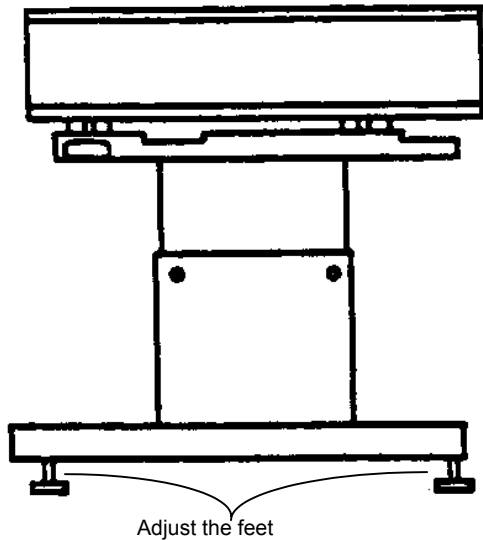

Figure 6. Leveling the Stacker
11. (Figure 6): Turn the Adjustable Feet CW or CCW as necessary to raise or lower the Stacker to the correct height. Level the Stacker from front-to-back and from side-to-side by adjusting the feet CW or CCW as necessary.